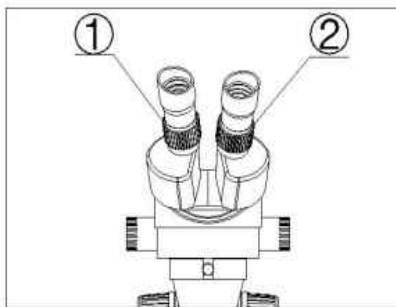

Fig.3
5) Observe the specimen through the right eyepiece and make the image clear by turning the right diopter adjusting ring ②. (Fig.3)
6) Redo the step(1),(3),(4) and (5) till the right adjusting ring is more precise.
7) Do the step (4) and make the image clear which is observed through the left eyepiece by turning the left diopter adjusting ring ①. (Fig.3)